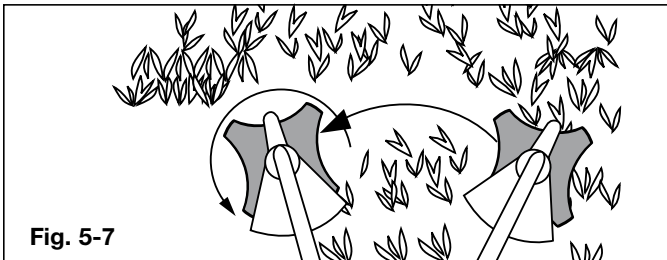

Fig. 5-7
- Swing the unit into material to be cut from your right to your left (Fig. 5-7).